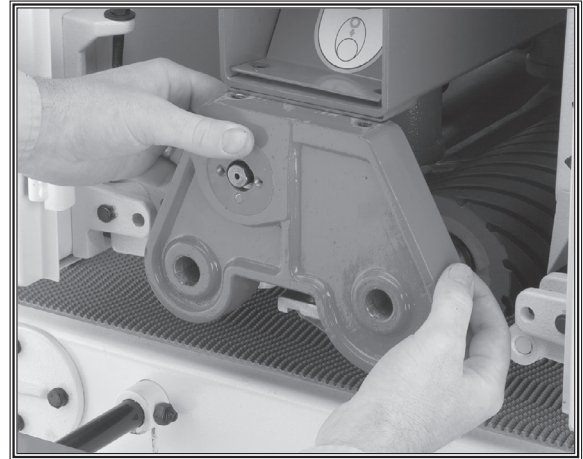

Figure 27. Roller casting end.
5. Pull the casting off of the roller ends as shown in **Figure 27**.